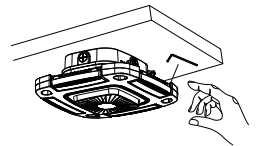

Figure 2-9
9. Manually rotate the surrounding lighting modules to adjust the angle. Lock screws on the lighting modules, installation completed. Figure 2-9